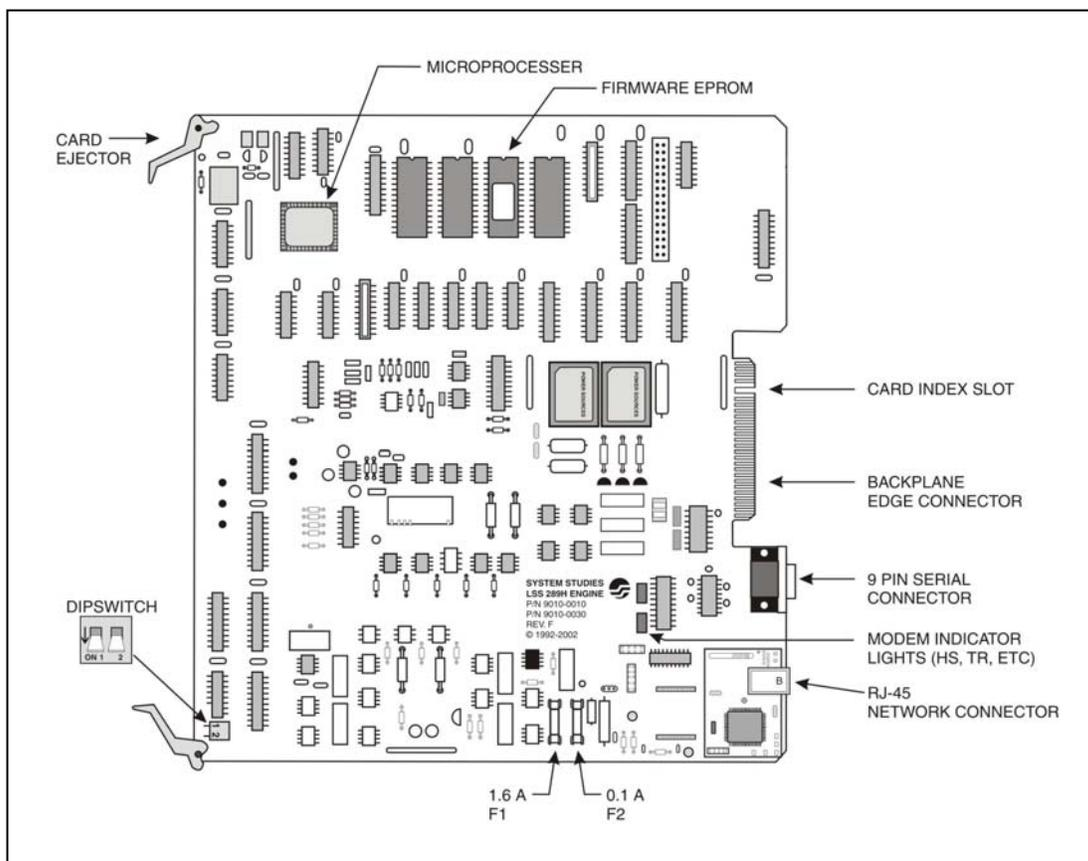

FIGURE 5-5: LAN CONTROLLER CARD (9800-0030)
2. Identify the S3 dipswitch set module that controls communication mode, located in the lower left corner of the LAN Controller card (see FIGURE 5-5).